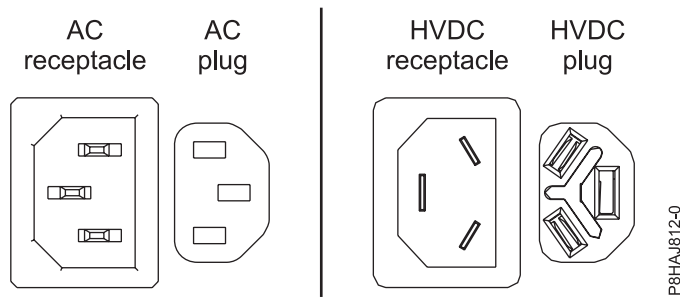
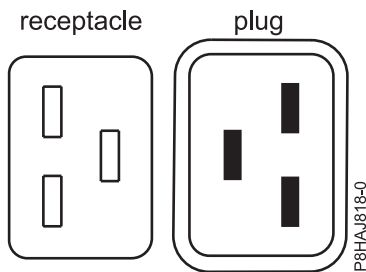
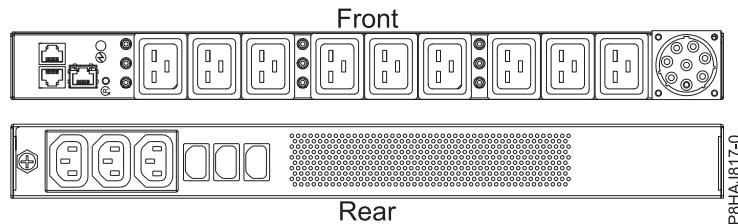

Figure 99. AC and HVDC connectors
Figure 100. Connectors for the 8408-44E system
Figure 101. PDU for the 8408-44E system
- The power cord is fastened to the system using the hook-and-loop fastener (A). If you are placing the system in a service position after disconnecting the power cords, then ensure that you unstrap the fastener.
Figure 99 shows the supported alternate current (AC) and high voltage direct current (HVDC) connectors. Figure 100 and Figure 101 show the supported connectors and power distribution unit (PDU) for 8408-44E.